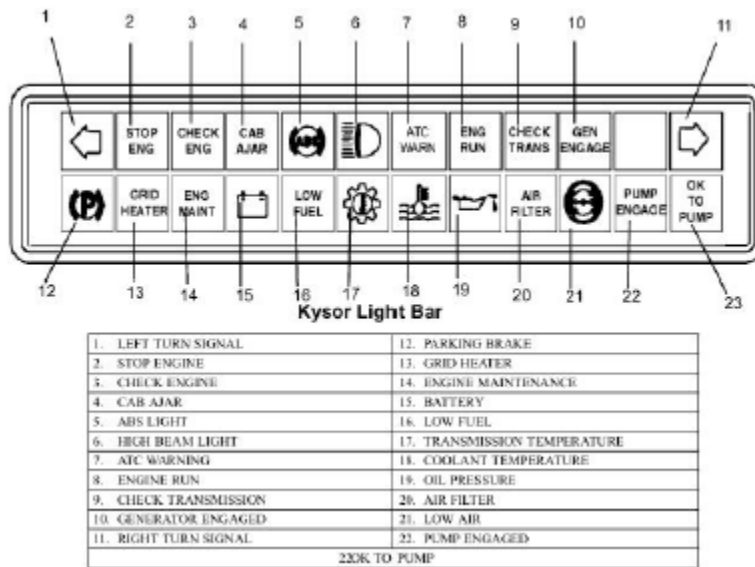
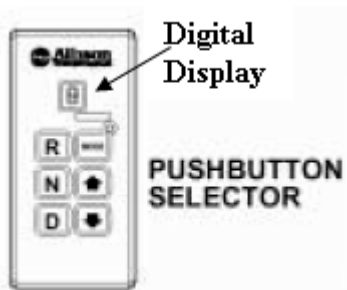

Figure 1: Console Lights
Figure 2: Allison Pushbutton Selector
1. Apply the parking brake. The "red parking brake applied" light (number 12 in Figure 1: Console Lights) should come on.
2. Make sure the transmission is in neutral. The "Digital Display" (see Figure 2: Allison Pushbutton Selector) should show an "N".
The "Pump Engaged" light (number 22 in Figure 1: Console Lights) should come on.
4. Push "D" on the transmission (see Figure 2: Allison Pushbutton Selector). The "Digital Display" on the transmission should show a "4". The "OK to Pump" light (number 23 on the Figure 1: Console Lights) should come on, and the speedometer should read at least 10 MPH.